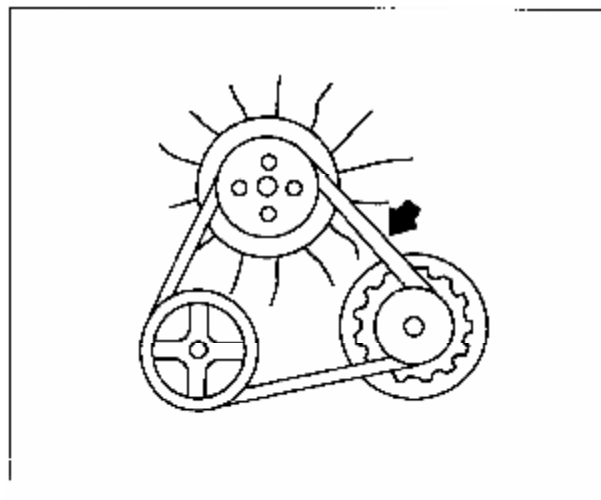

Figure 3-51 Check and Adjust Fan Belt Tension
- (3) Check and adjust fan belt tension (see Figure 3-51): Use a force of 98N to press the belt at middle spot between alternator and water pump. If the deflection is 7~8mm (for a new belt 5-7mm), belt tension is nominal; otherwise adjust it.